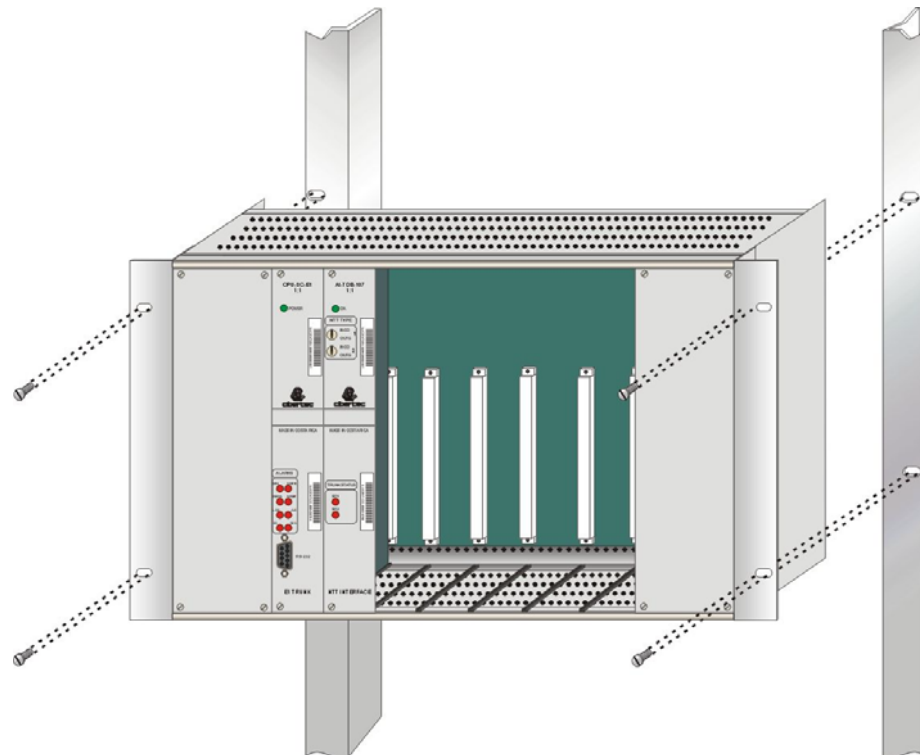

Figure 6. Sub-Rack Mounting Directions.
- f. The mounting should be done in a 19" rack or frame. See *Figure 6*. If the NTTU is to be installed in a 23" rack, such as the 5ESS Miscellaneous Cabinet, you will require the adapter bracket.
- g. Fix the NTTU in the rack or frame using 4 fastening screws as indicated in *Figure 6*.